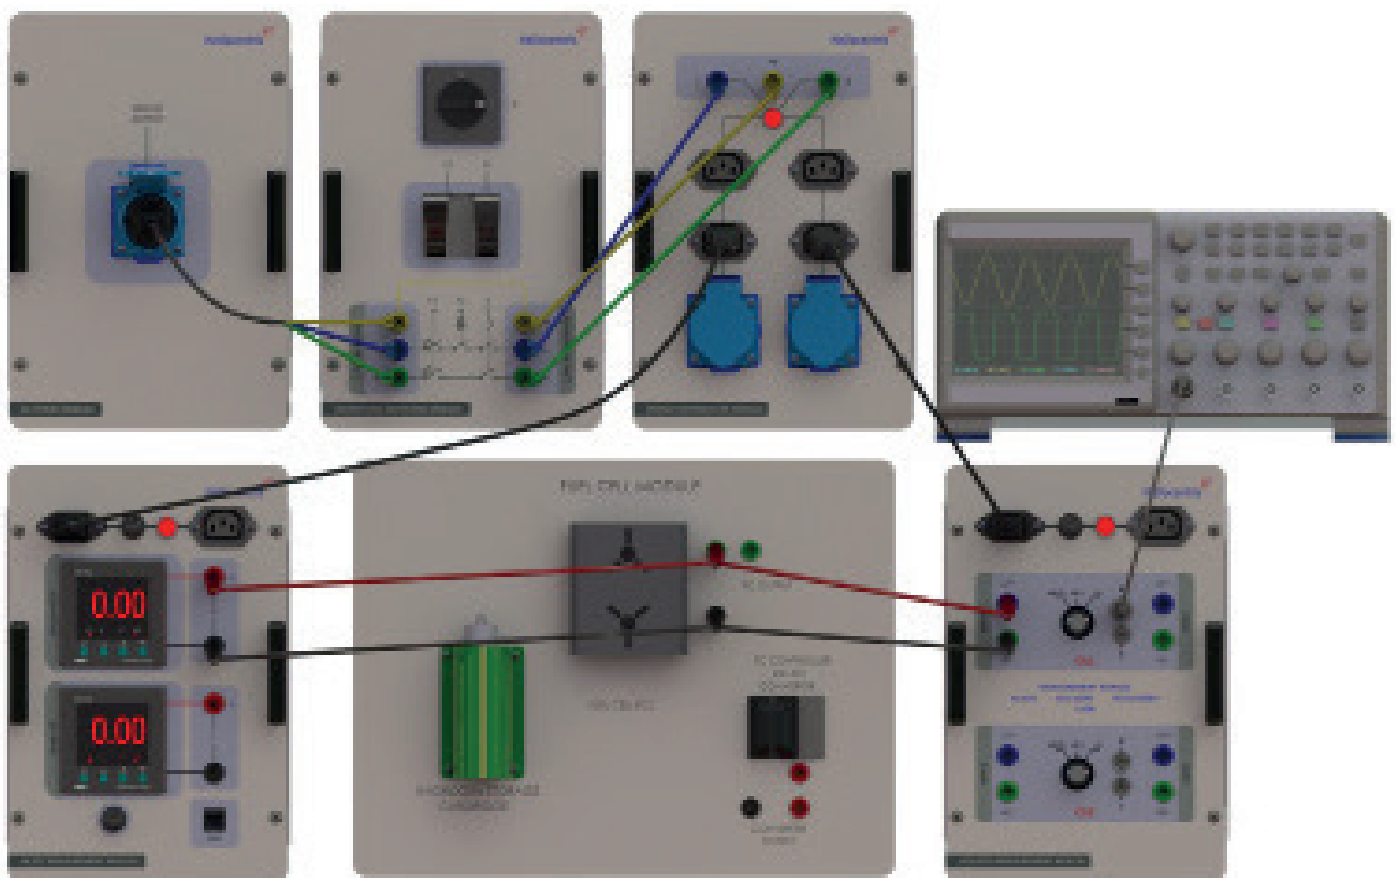

Figure-1
- 2) Connect as shown in Figure-1.